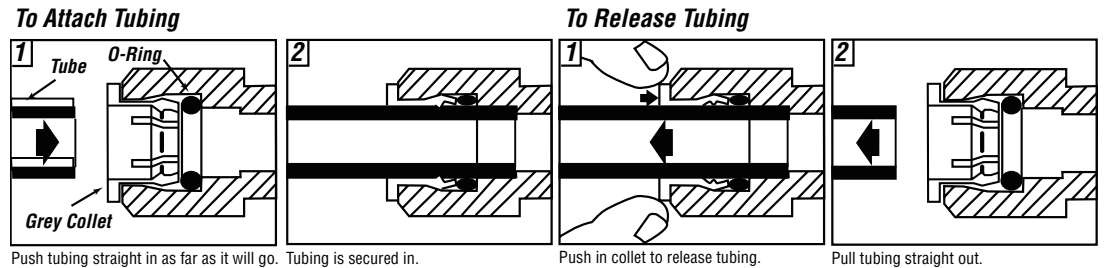

Figure 2
All connections are made with “Push-In” connectors. Refer to Figure 2 on the use of “Push-In” plastic fittings. Use care in routing the tubing to ensure that there are no bends or kinks.
- 3) Open the tank shut-off valve and inlet water valve. Turn on the incoming water supply or beverage booster pump (if applicable) and check the system for leaks. If any leaks are noted, turn off the water supply and/or booster pump and correct the leak before proceeding. If a leak is detected at a push-in fitting, refer to Figure 2.